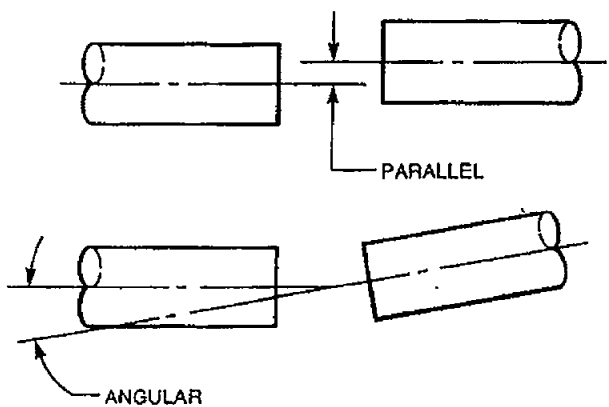

Figure 4-2
*Note:* Foot-mounted motors are shimmed between motor feet and motor shelf to provide the necessary accuracy of alignment between motor and gearcase shafts. If motor is removed and reassembled to hoist, the shimming must be retained. If new motor is installed, reshimming may be necessary. Maximum allowable misalignment of shafts using flexible coupling is 1° on angular alignment and 0.020" on parallel. See Figure 4-2.